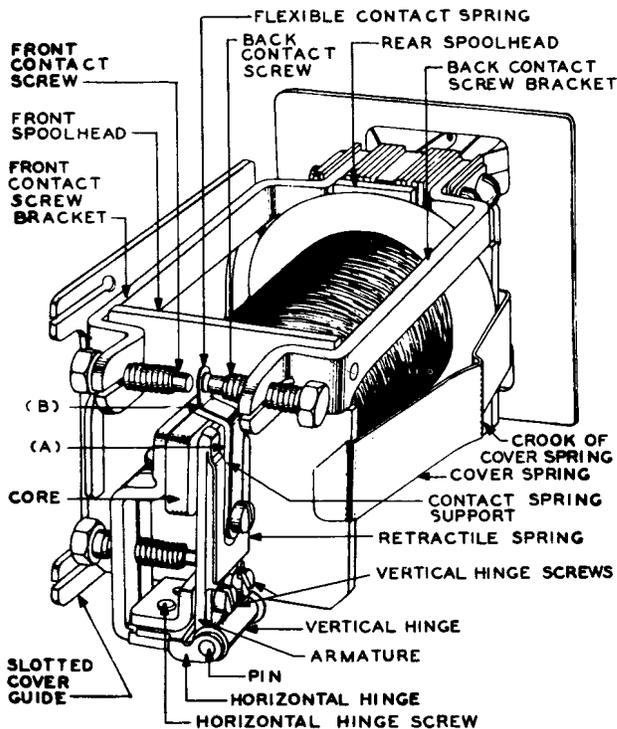

Fig. 2 - Relay Shown Equipped with Slotted Cover Guide and Cover Spring (Cover Guide and Spring Used Only on N- and S-type Relays)
2.07 Clearance Between Contact Spring and Retractable Spring: Fig. 2(A) - Neither the contact spring nor contact spring support shall touch the sides of the slot in the retractile spring in the operated or unoperated position of the armature.
(a) Test: Fig. 2(B) - The flexible contact spring shall rest on the spring support at least within 1/16 inch of the extreme end of the support.